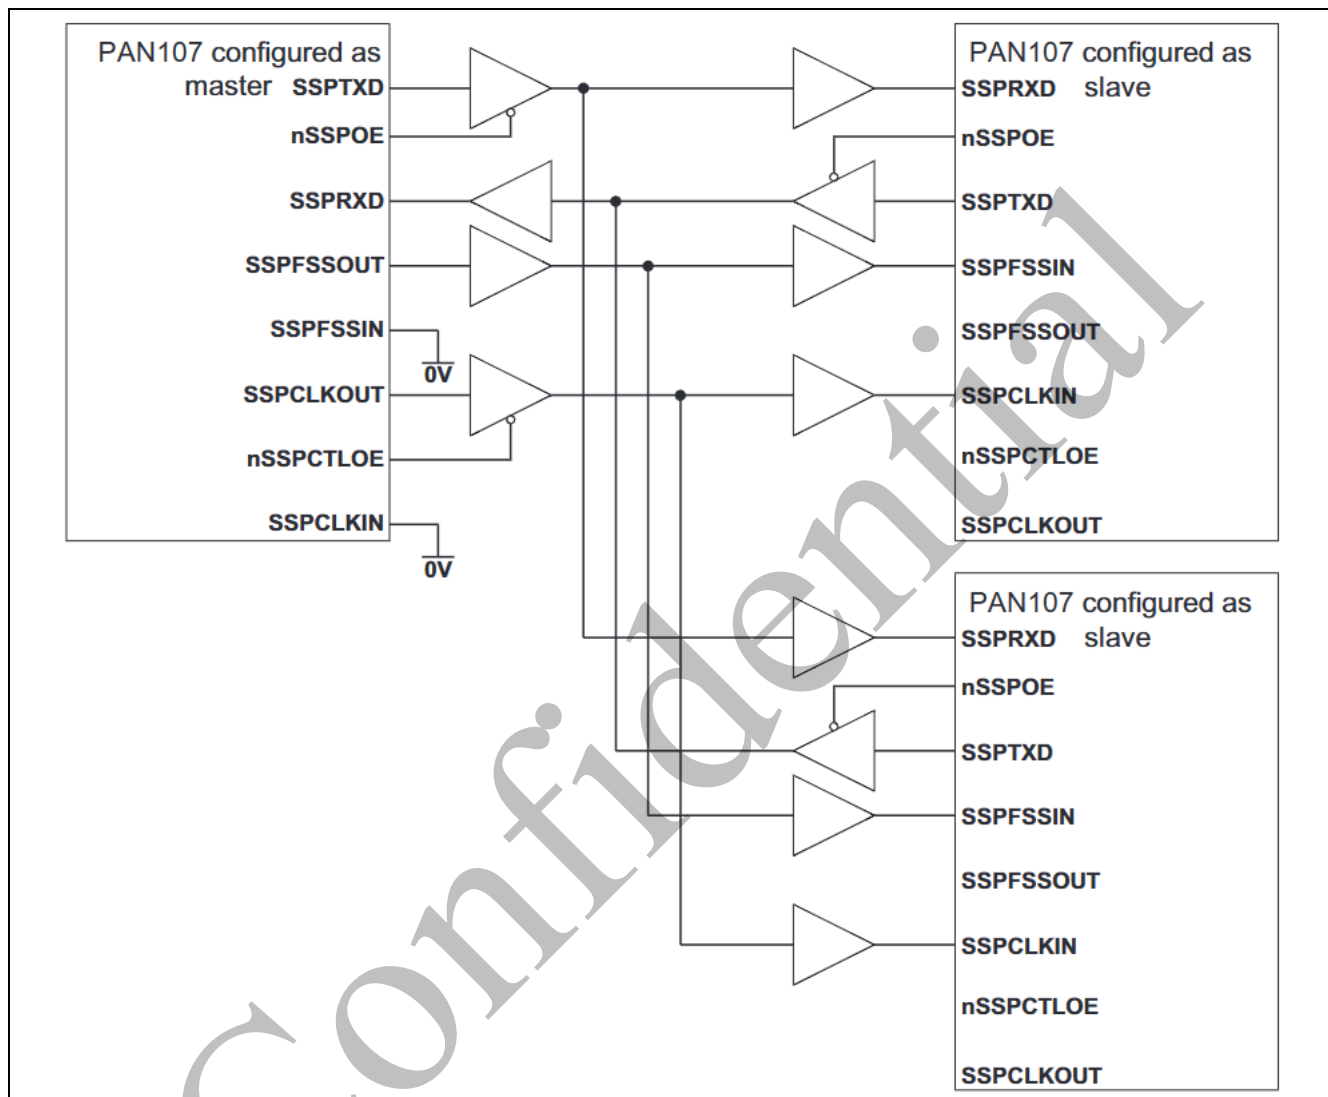
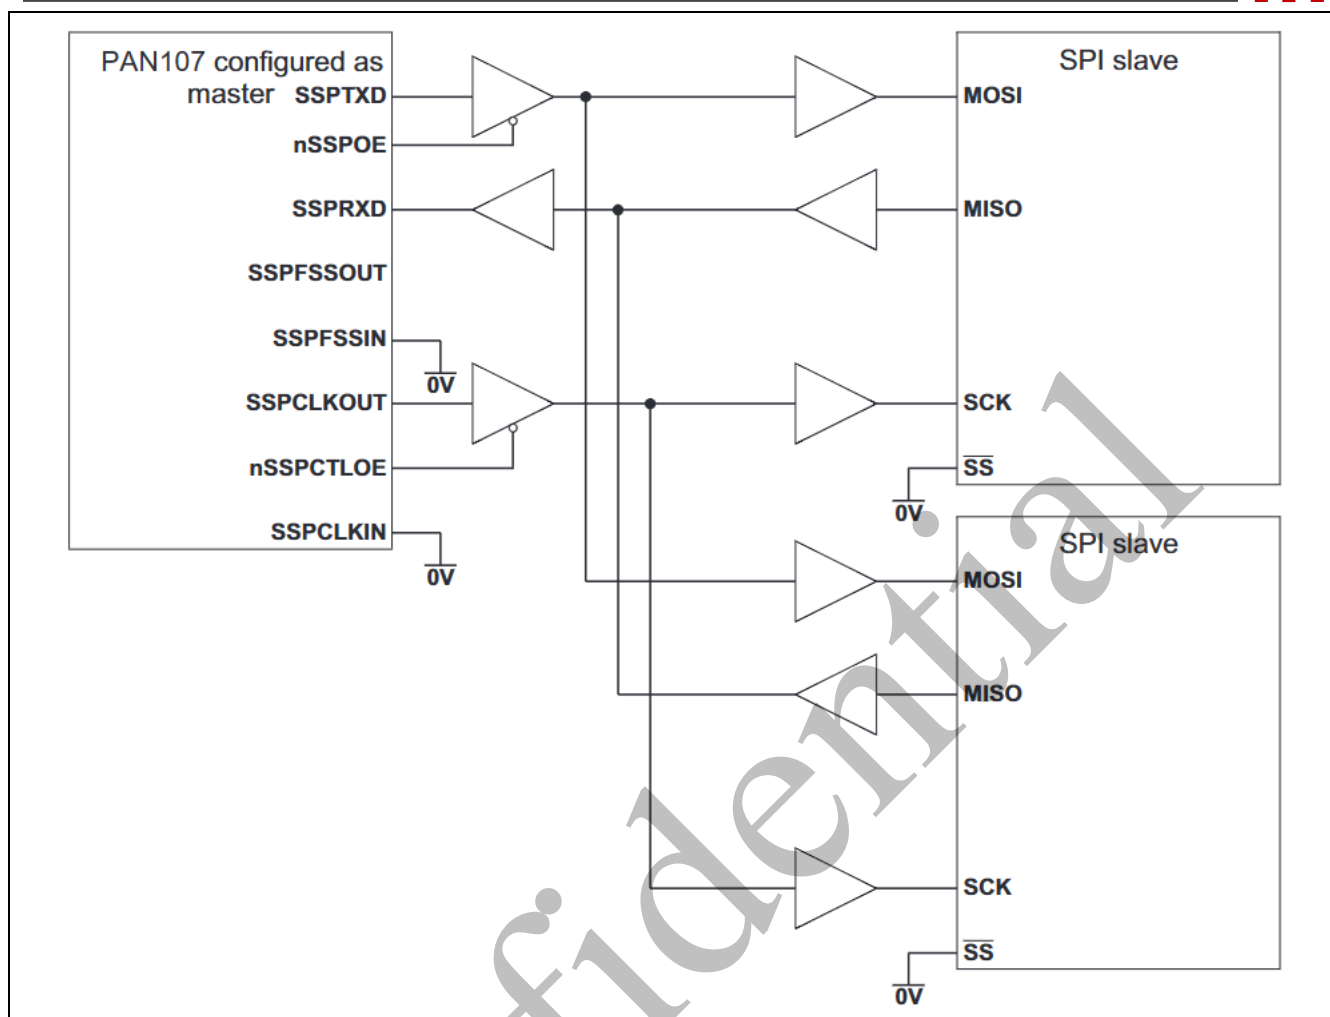
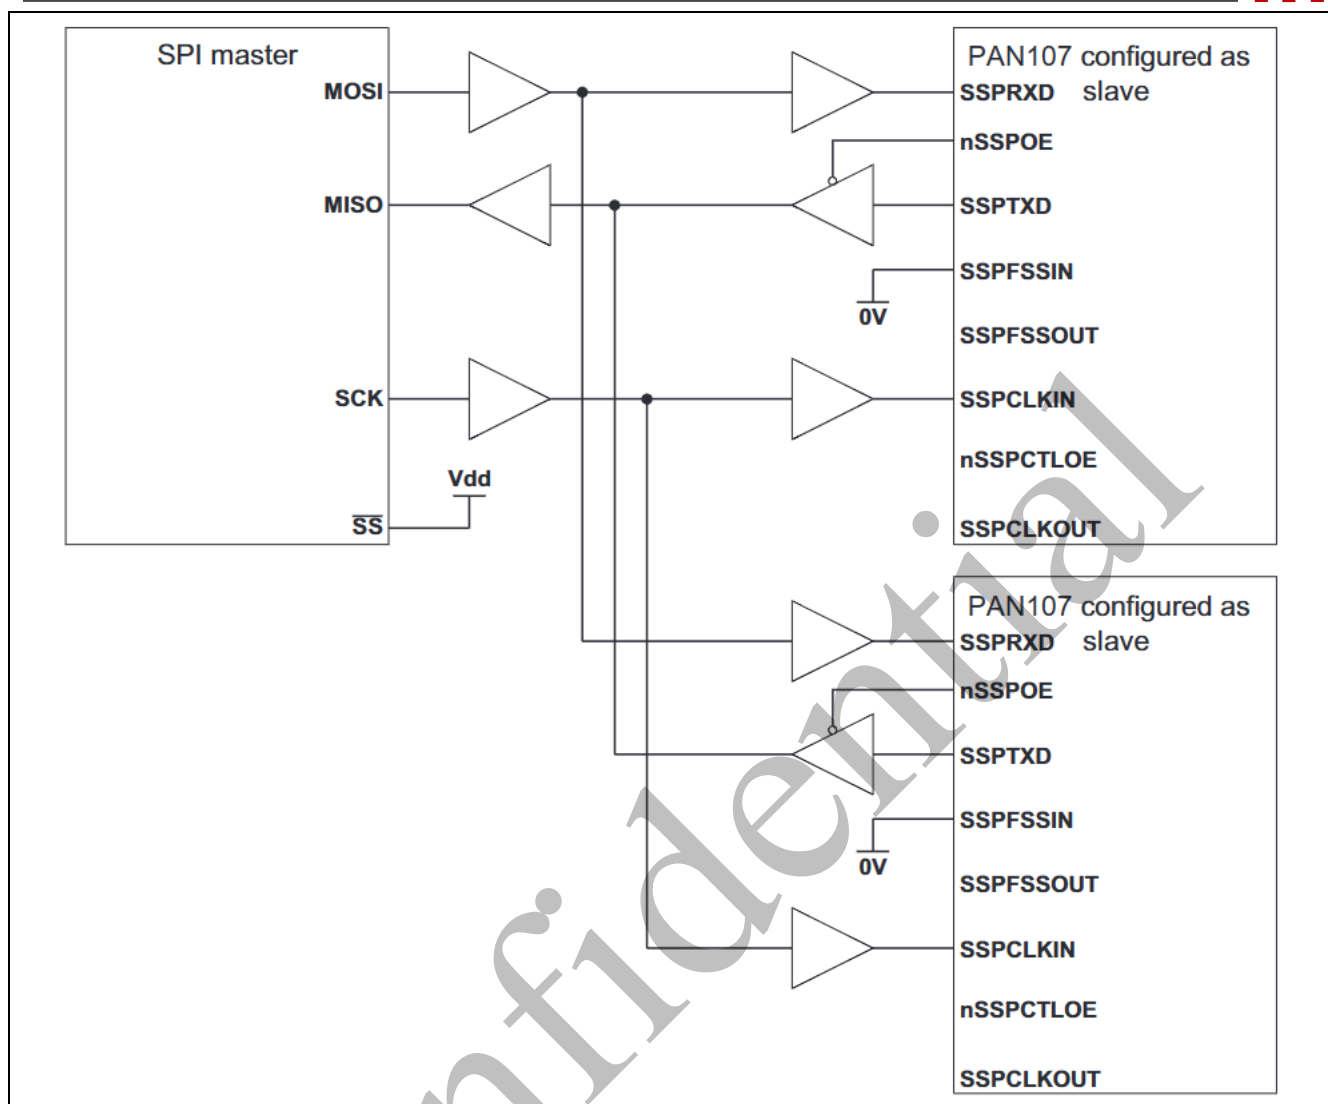

Figure 3-100 SSP master coupled to two slaves
Figure 3-101 SSP master coupled to two slaves
Figure 3-102 SPI master coupled to two SSP slaves
Figure 3-100, Figure 3-101 and Figure 3-102 show how the SSP peripheral can be connected to other synchronous serial peripherals, when it is configured as a master or slave.
Figure 3-100 shows the SSP instanced three times, as a single master and two slaves. The master can broadcast to the two slaves through the master SSPTXD line. In response, only one slave drives its nSSPOE signal HIGH, thereby enabling its SSPTXD data onto the SSPRXD line of the master.
Figure 3-101 shows how an SSP, configured as master, interfaces to two Motorola SPI slaves. Each SPI Slave Select (SS) signal is permanently tied LOW and configures them as slaves. Similar to the above operation, the master can broadcast to the two slaves through the master SSP SSPTXD line. In response, only one slave drives its SPI MISO port onto the SSPRXD line of the master.
Figure 3-102 shows a Motorola SPI configured as a master and interfaced to two instances of SSP configured as slaves. In this case the slave Select Signal (SS) is permanently tied HIGH and configures it as a master. The master can broadcast to the two slaves through the master SPI MOSI line and in response, only one slave drives its nSSPOE signal LOW. This enables its SSPTXD data onto the MISO line of the master.